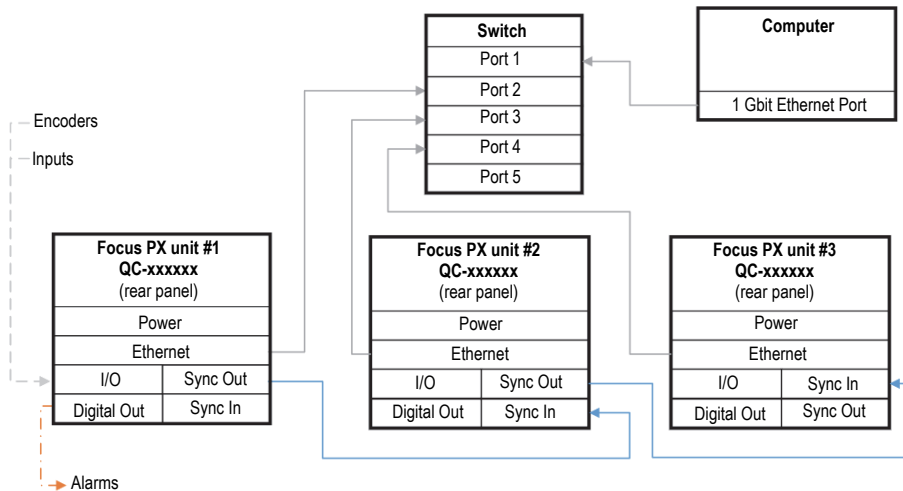

Figure 1-1 Multiple unit connection
- ◆ Connect all required cables to the FOCUS PX unit. The schematic below shows how to connect multiple units (Figure 1-1 on page 23). If you only use one unit, connect only the first one without a Sync Out cable.